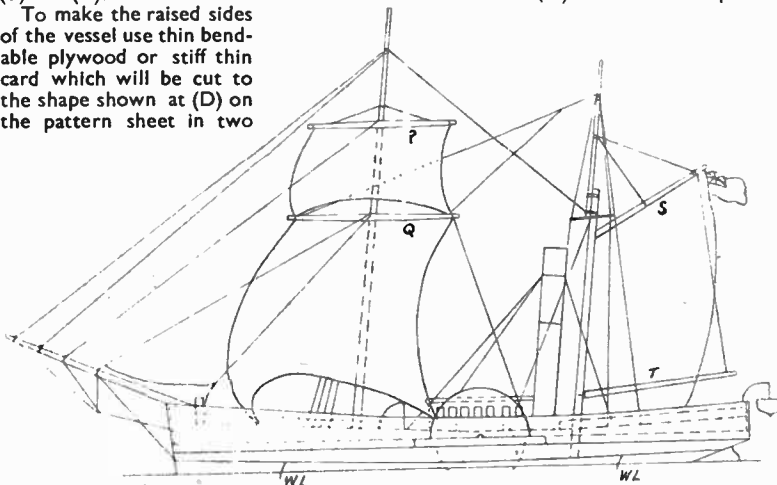
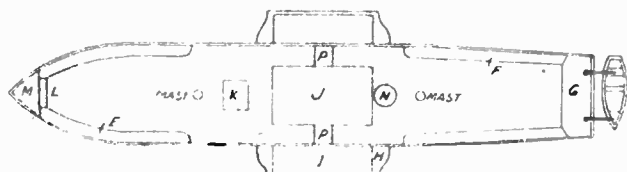
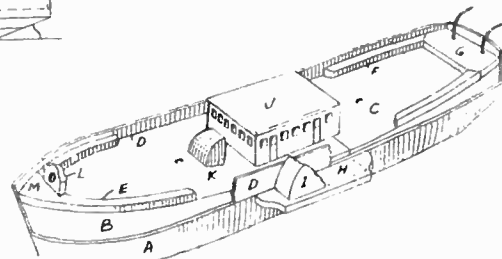

Fig. 2—Side view, with dotted lines of adjoining parts
Fig. 1—Plan of deck and hull
Fig. 3—Constructional details of hull and paddle box
type, and measures—without its base—13½ ins. long overall and its height is 8 ins. The plan at Fig. 1 and side view, Fig. 2, will be found very useful when assembling the various parts of the model. The full-size patterns, too, of many of the important parts, are given on cover iii.
sections. The plan of the ship, Fig. 2, and the view showing construction, Fig. 3, show how the bent sides appear when glued to the raised blocks at bow and stern. A large portion of the foremost side is shown cut away for sake of clarity.
The engine room and cabin (J) can be cut as a solid block from $\frac{1}{4}$ in. wood and measures $1\frac{1}{2}$ ins. by $1\frac{1}{2}$ ins., with windows and doors painted on. The shaped companion head (K) is a simple block, as given in two views on the pattern sheet. The upright (L) also on the sheet, carries the bowsprit and is of $\frac{1}{4}$ in. wood. Just in front of this piece (L) is a small angular piece (M) glued between the pieces (E) on the sides. Fig. 3 shows the position of all these parts.